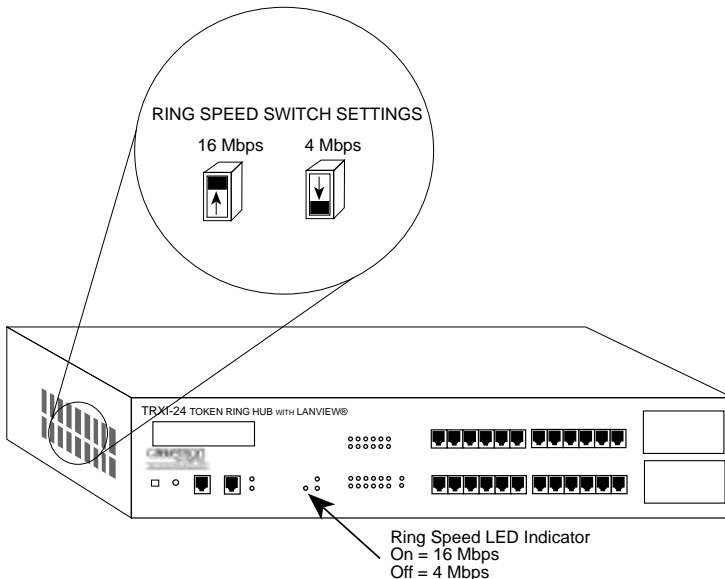

Figure 3-6. The Ring Speed Switch
The TRXI's Ring Speed switch lets you select ring speeds of 16 Mbps or 4 Mbps. The factory default setting of the Ring Speed Switch is 16 Mbps. Figure 3-6 shows the location of the Ring Speed Switch and the switch settings. You can access the switch through the air vent with a small screwdriver.
3. Use the screwdriver to slide the switch to the desired setting as shown in Figure 3-6.